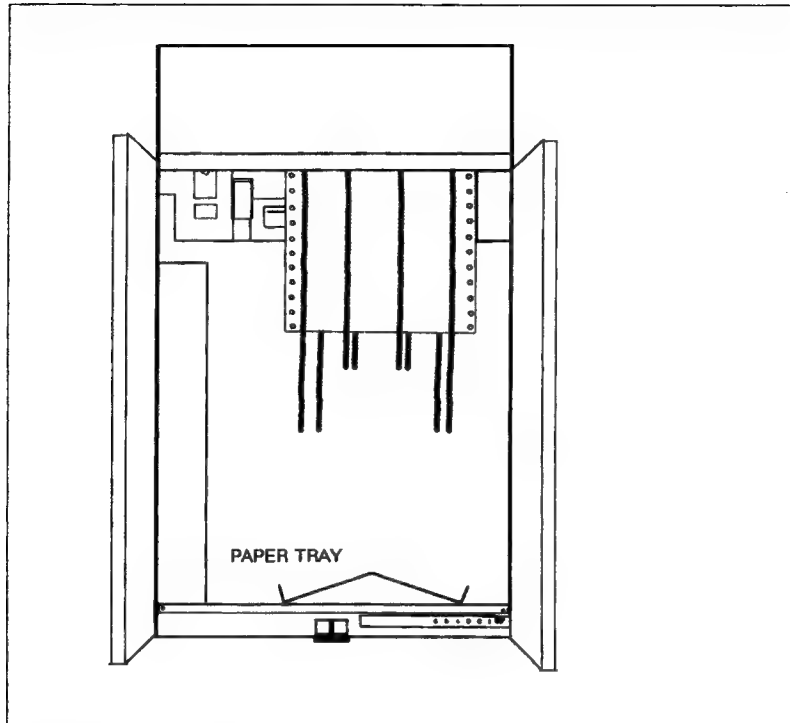

Figure 2-37. Paper Tray and Chains
- j. Open the enclosure doors. Center the paper tray directly against the back of the printer and under the paper (Figure 2-37).
- k. Make sure all eight chains hang freely inside the basket (Figure 2-37).